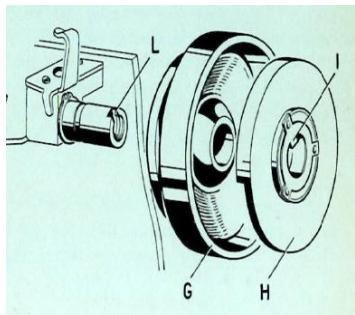

Figure 35
N.B – When doing this, bear in mind that the protrusion I of the counterweight must go into the slot L of the upper shaft (figure 35).
N.B – In reassembling, bear in mind that the protrusion I of the counterweight must go into the slot L of the upper shat (figure 35).